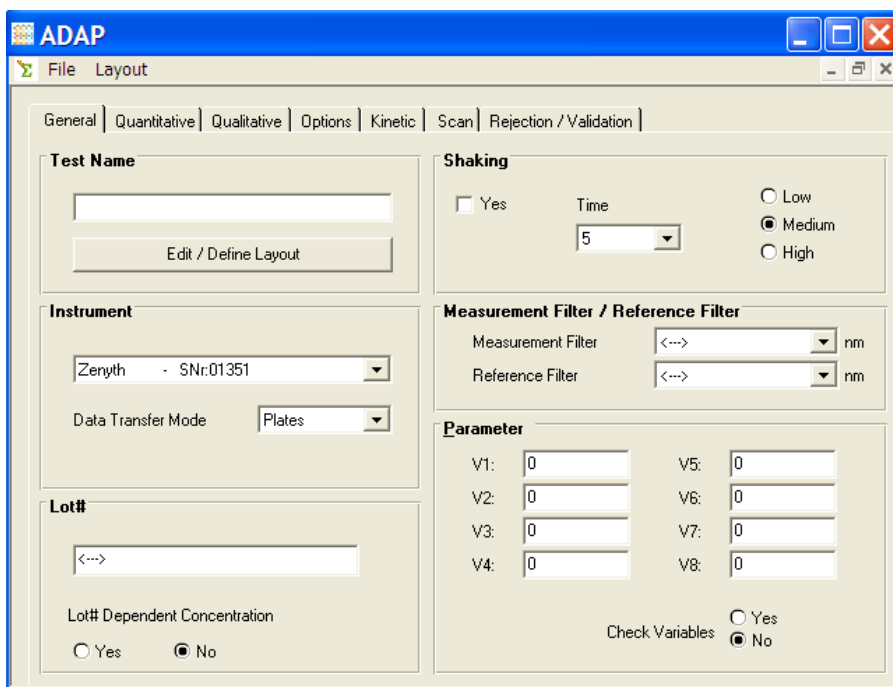

Figure 8-15: ADAP software test definition options
Choose **Create/Edit Calculation**. ADAP test definition options appear (Figure 8-15).
4. In Test Name, enter a new name for the test (Figure 8-15).